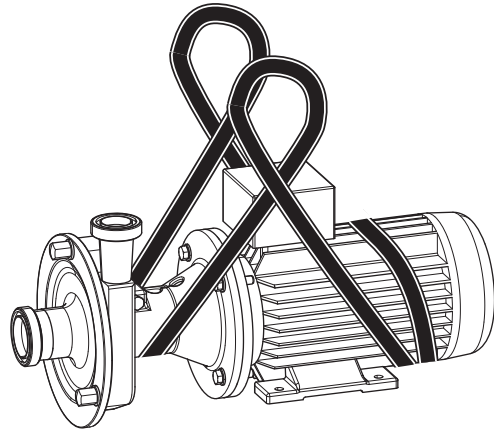

Fig. 14 Moving with crane
1. Wrap the round sling twice around the back end of the motor. Do not lay over the fan shroud (see Fig. 14 Moving with crane).